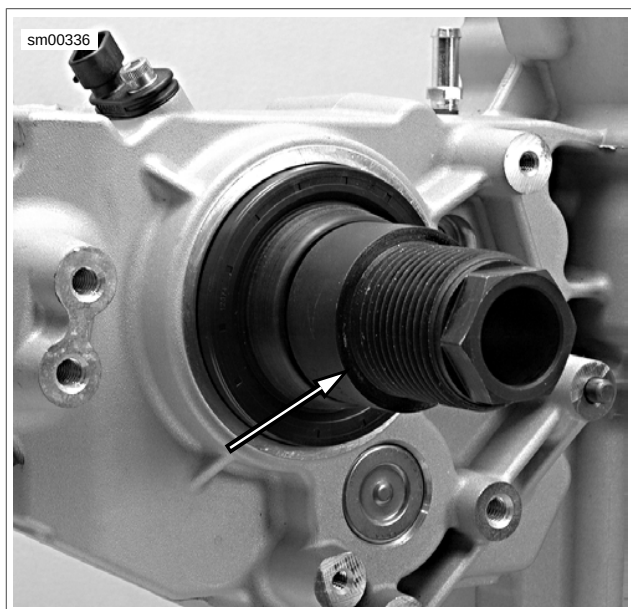

Figure 6-79. Install Adapter (Typical)
4. See Figure 6-79. Thread ADAPTER (Part No. HD-47856-4) onto end of main drive gear several turns. Do NOT tighten. Doing so could make it difficult to remove adapter after seal has been installed.